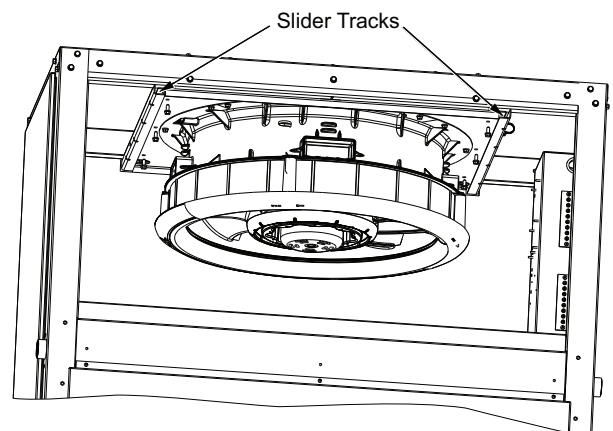

Fig. 31 — Lower Fan Deck Assembly to Slider Tracks
4. Allow the fan deck to drop into the slider tracks (careful not to pinch body parts when the fan drops) See Fig. 31.